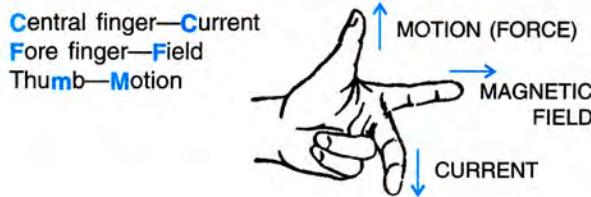

Fig. 10.23 Fleming's left hand rule
**Fleming's left hand rule :** Stretch the forefinger, central finger and the thumb of your left hand mutually perpendicular to each other as shown in Fig. 10.23. If the forefinger indicates the direction of magnetic field and the central finger indicates the direction of current, then the thumb will indicate the direction of motion of conductor (i.e., force on conductor).